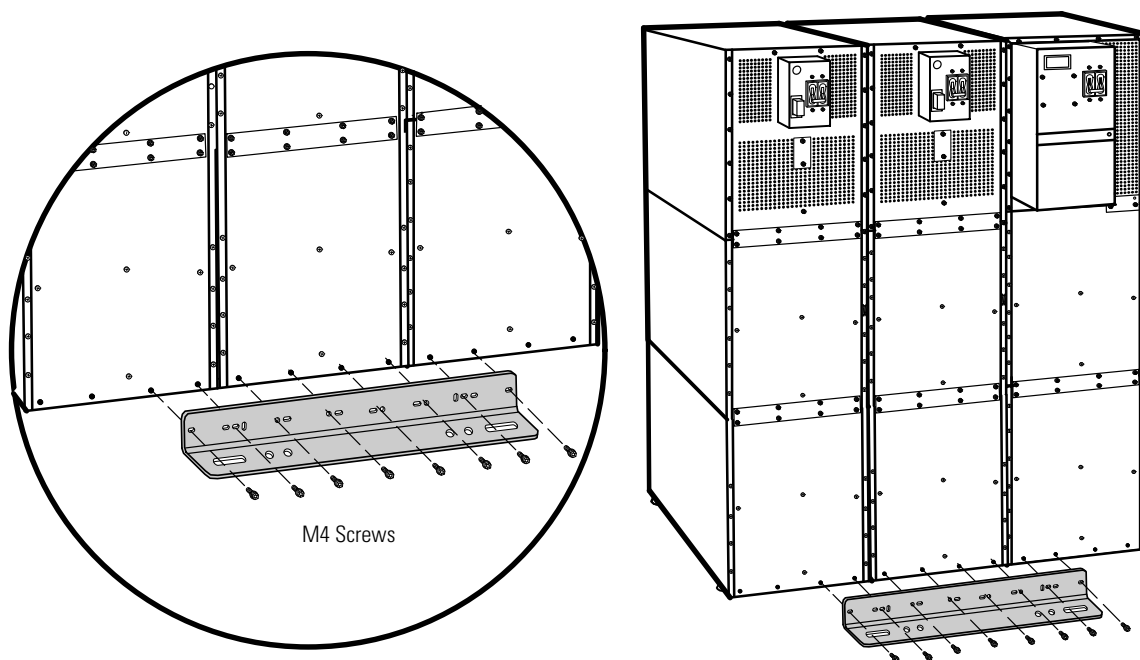

Figure 33. Stabilizing Bracket with Three Cabinets
- For three cabinets, see Figure 33.